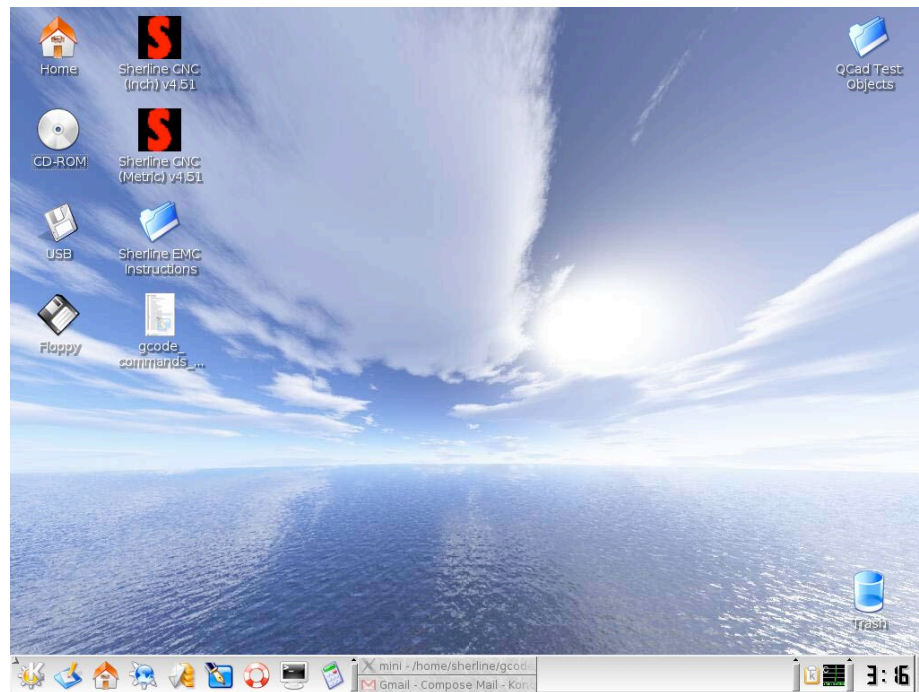

Figure 5
- (1) Make sure that the toggle switch on the side of the CPU is off. (The red LED next to the switch will glow when the switch is set to On.)
- (2) Turn on the CPU.
- (3) Once the CPU starts up, your screen should be similar to the Figure 5.